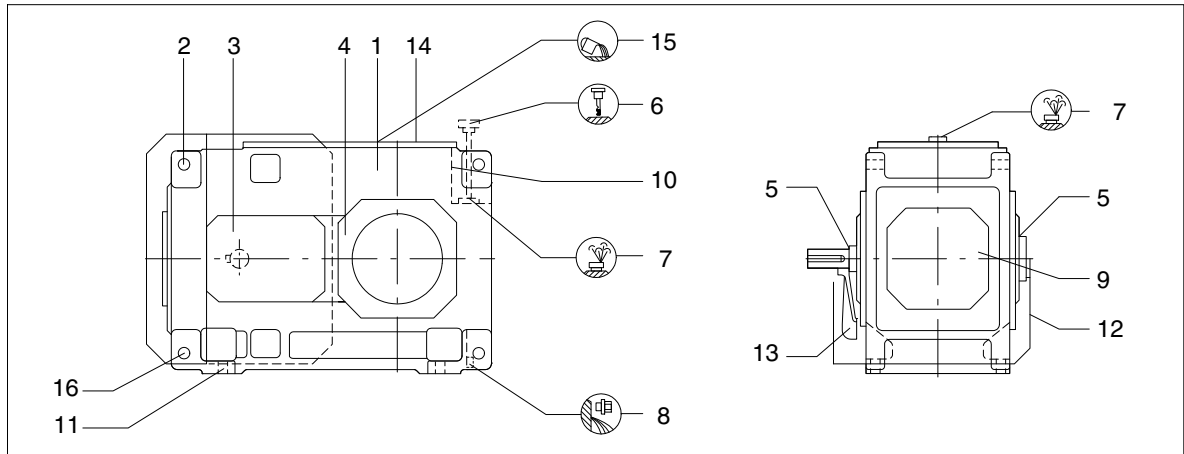
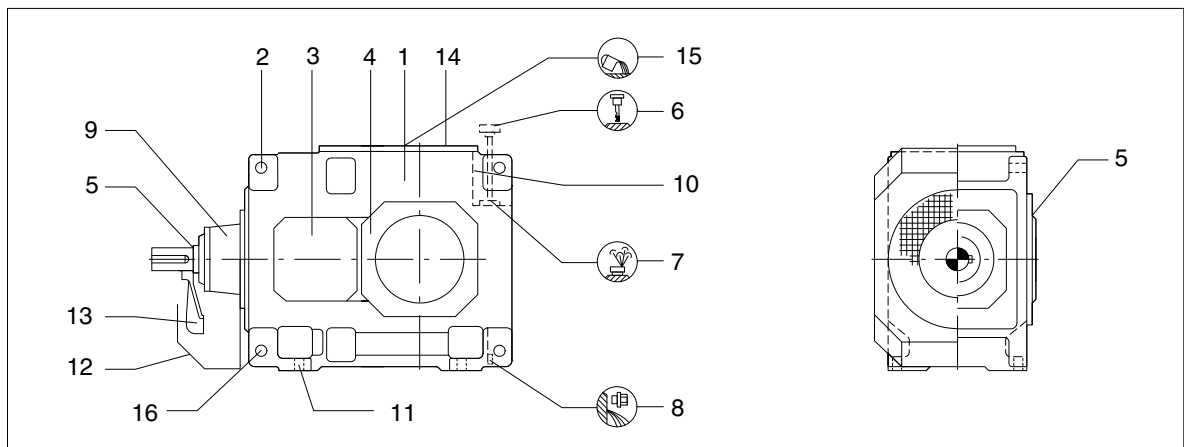

Fig. 14: Gear-unit features on gear units of type H..H ≤ 514
Fig. 15: Gear-unit features on gear units of type B..H ≤ 514
*) All other types and sizes the torque arm is bolted to the gear-unit fastening by means of a plate (11 in figure 14 or figure 15).